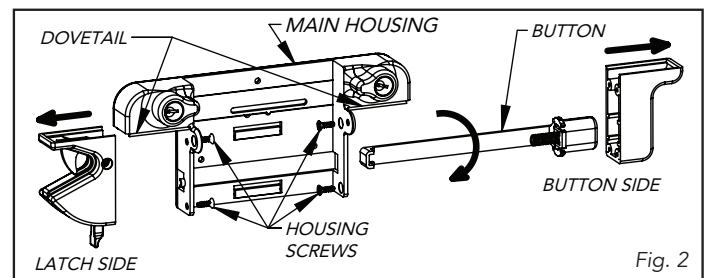

Fig. 2
2. Remove the (4) housing screws (Fig. 2). Slide the latch assembly from the main housing. Slide the button assembly from the main housing. Remove the button from the button housing, rotate the button 180°, and reinstall the button into the button housing, taking care to leave the spring in the button.